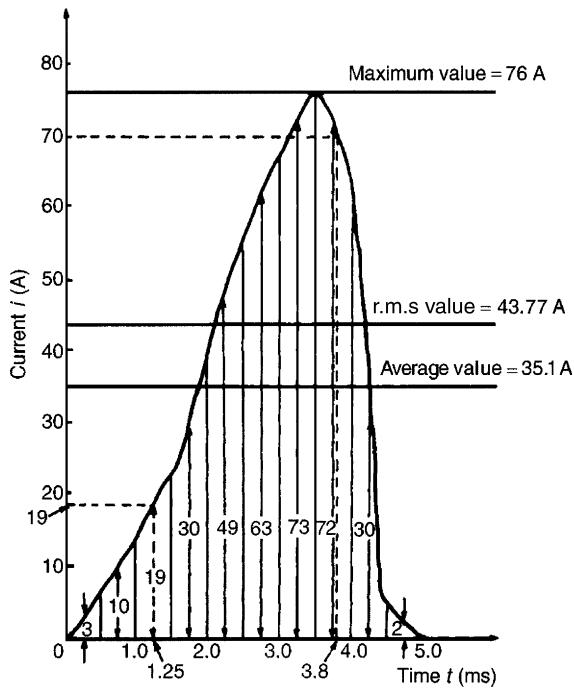

Figure 14.6
The half-cycle of alternating current is shown plotted in Fig. 14.6
- (b) Instantaneous value of current after 1.25 ms is **19 A**, from Fig. 14.6. Instantaneous value of current after 3.8 ms is **70 A**, from Fig. 14.6
$$\begin{aligned} \left. \begin{array}{l} \text{area under} \\ \text{curve} \end{array} \right\} &= (0.5 \times 10^{-3}) [3 + 10 + 19 + 30 \\ &\quad + 49 + 63 + 73 \\ &\quad + 72 + 30 + 2] \\ &\quad \text{(see Fig. 14.6)} \\ &= (0.5 \times 10^{-3})(351) \end{aligned}$$